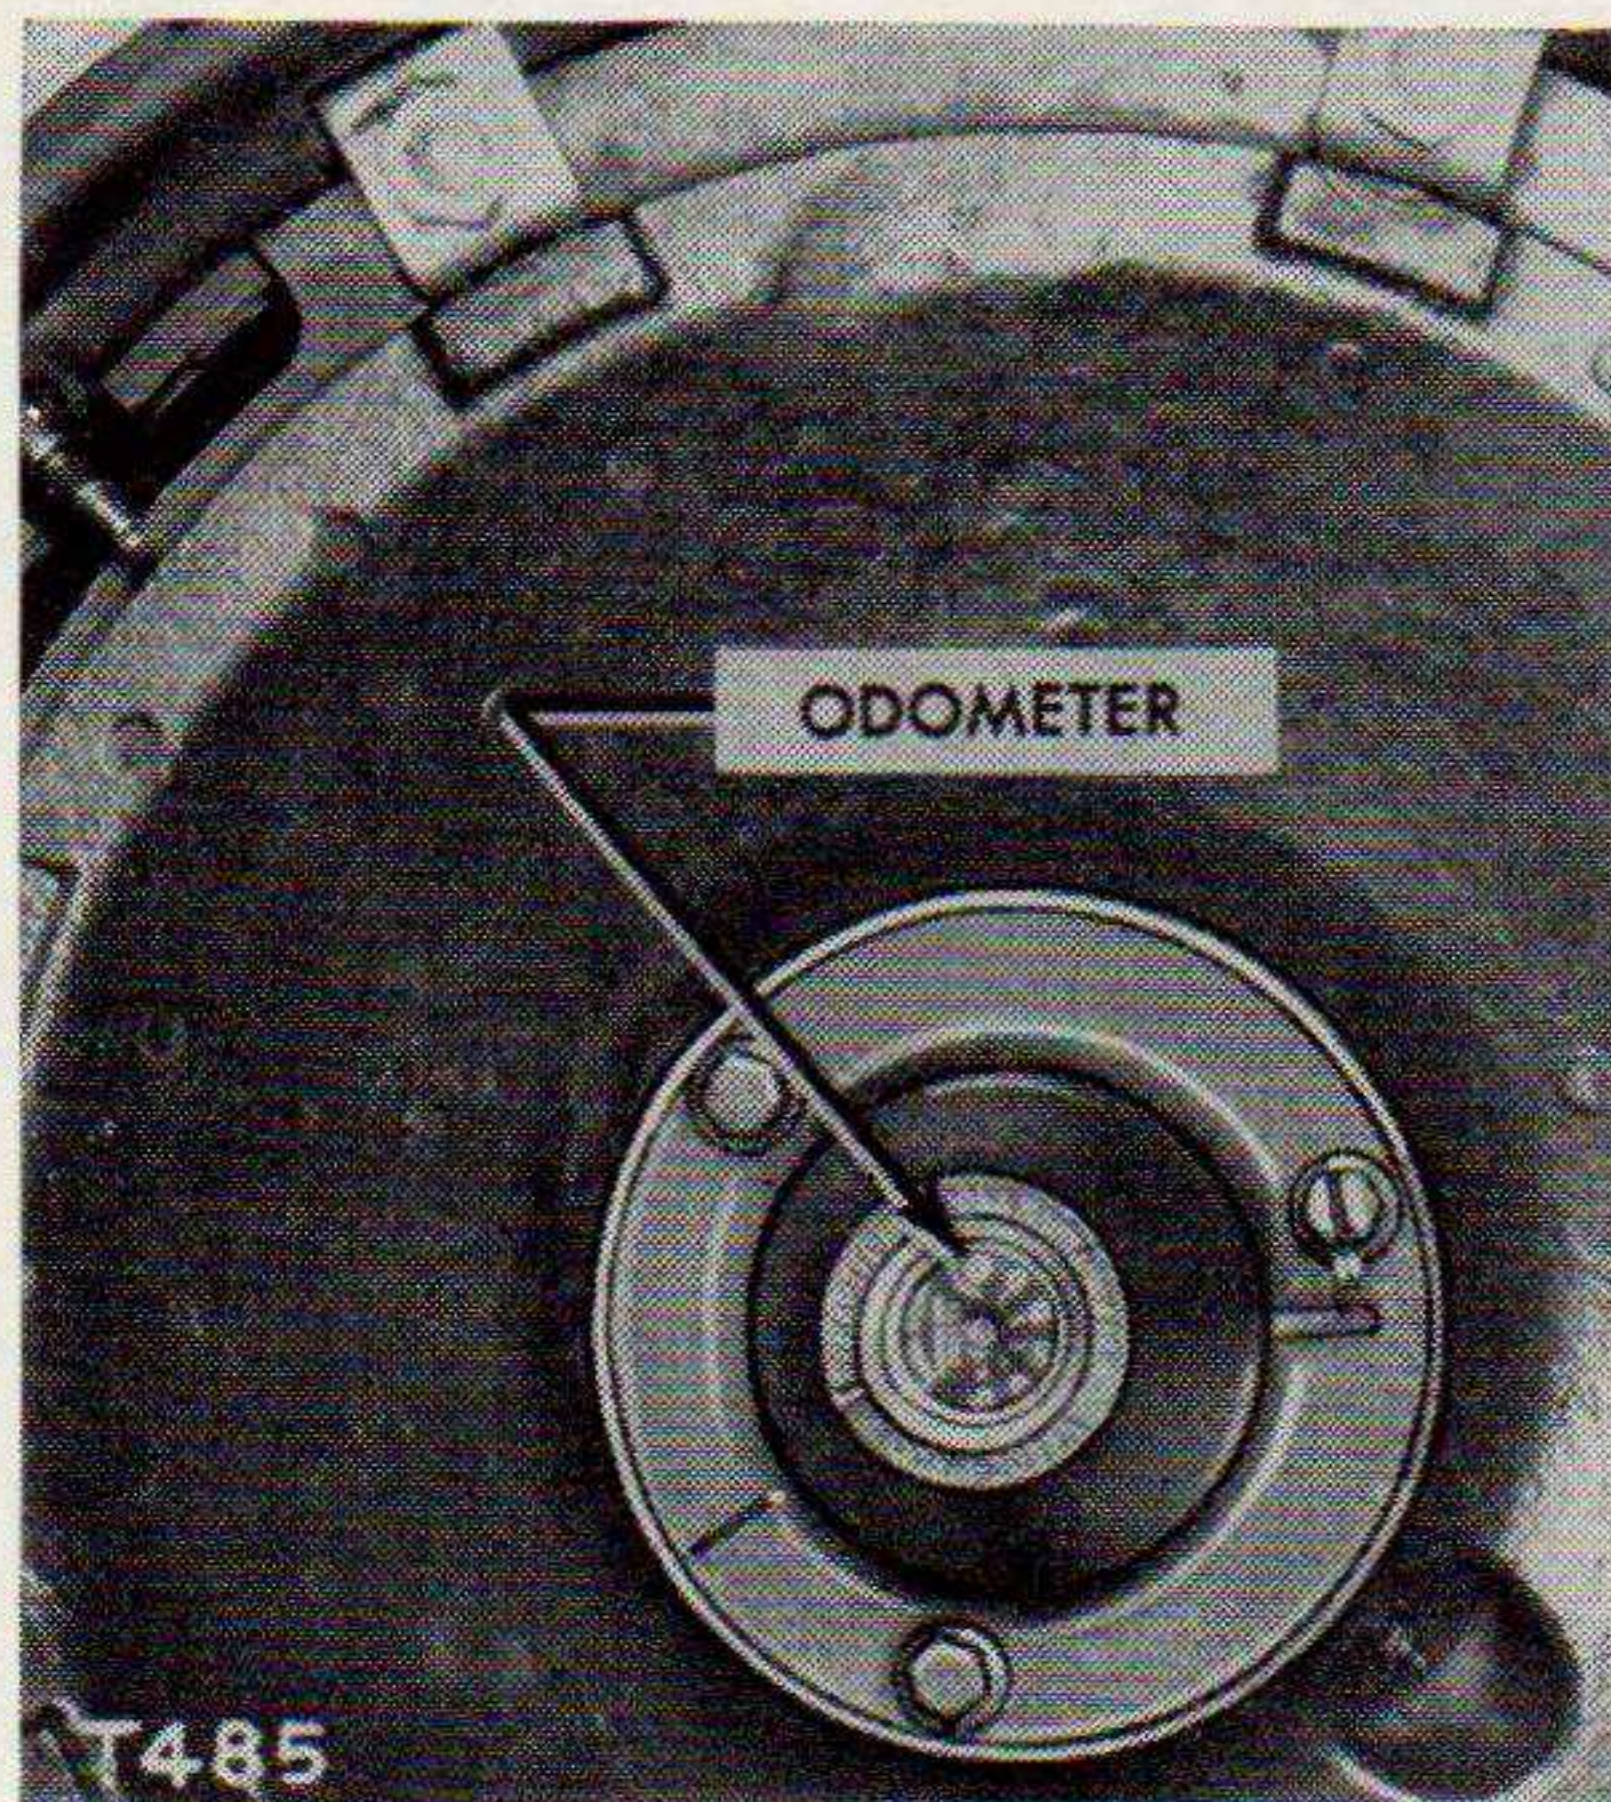

Figure 17. Odometer.
*g.* ODOMETER. (See fig. 17.) The odometer records the number of miles the machine travels but does not indicate the speed it travels.